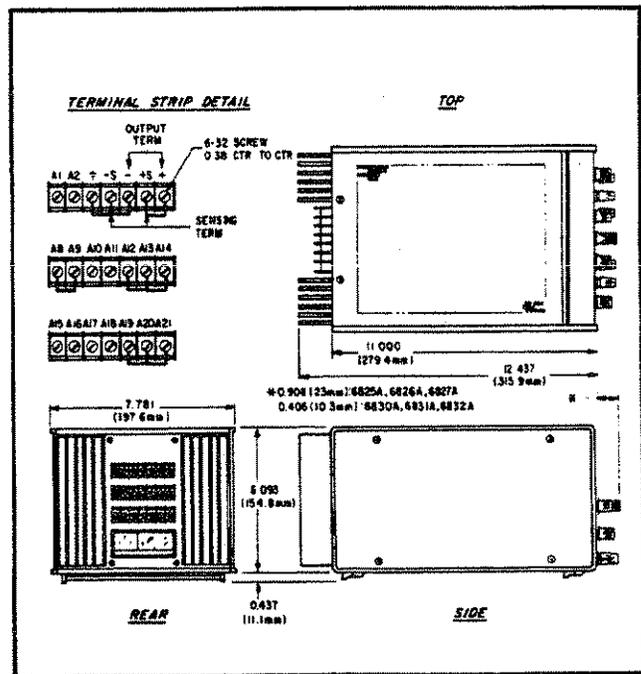

Figure 2-1. Outline Diagram
<p>Input Power: 104-127/208-254Vac (switchable), 48-63Hz, 1.0A, 150W</p> <p>Meters: Individual voltage and current meters. DC accuracy is 3% of full scale. AC accuracy is 5% of full scale with sinusoidal, 100Hz input.</p> <p>Meter Ranges (DC): ±2.4V, ±24V/±0.24A, ±2.4A</p> <p>Meter Ranges (AC): 1.6V (uncal), 16V rms/0.16A rms, 1.6A rms</p> <p>Temperature Ratings: Operating: 0 to 55°C. Storage: -40 to +75°C.</p> <p>Cooling: Convection cooling is employed. The supplies have no moving parts.</p> <p>Dimensions: See outline diagram, Figure 2-1.</p> <p>Weight: 18 lbs. (8.2 kg.) net, 21 lbs. (9.5 kg.) shipping.</p>	<p>Source Effect (Line Regulation) Continued: Voltage (X1 Range): .01% + .2mV Voltage (X4 Range): .01% + 2mV Current: .01% + 250µA</p> <p>PARD (Ripple and Noise): Rms/p-p (20Hz to 20MHz) at any line voltage and under any load condition within rating. Voltage (X1 Range): 1.5mV rms/4mV p-p Voltage (X4 Range): 5mV rms/15mV p-p Current: 3mA rms/10mA p-p</p> <p>Temperature Coefficient: Output change per degree Centigrade change in ambient following 30 minutes warm-up. Voltage (X1 Range): .01% + .35mV Voltage (X4 Range): .01% + 1.5mV Current: .02% + 100µA</p> <p>Drift (Stability): Change in output (dc to 20Hz) over 8 hour interval under constant line, load, and ambient following 30 minutes warm-up. Voltage (X1 Range): .03% + 1mV (Pot wiper jump effect may add 5mV) Voltage (X4 Range): .03% + 5mV (Pot wiper jump effect may add 50mV) Current: .1% + 200µA (Pot wiper jump effect may add 1.5mA)</p>
2-14 Figure 2-1 illustrates the outline shape and dimensions of the BPS/A.